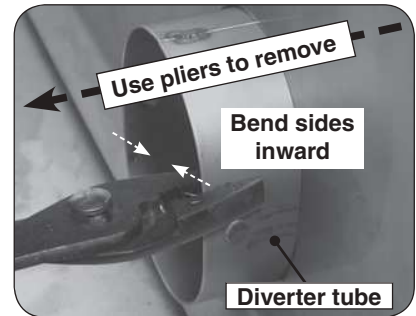
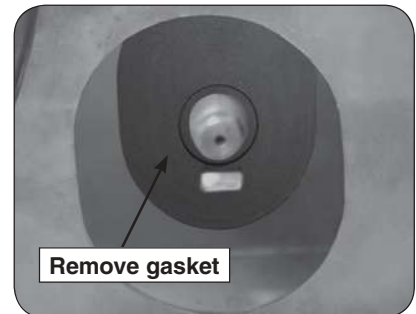

Fig. 2-1 Remove diverter tube
Fig. 2-2 Remove silicone gasket
5. The grill is equipped with a heatshield kit for each main burner. This kit is only functional with the standard main burner, and must be removed for proper infrared burner operation. Use pliers to remove the diverter tube by bending in each side and pulling it outwards (see Fig. 2-1), then reach in and remove the silicone gasket (see Fig. 2-2).